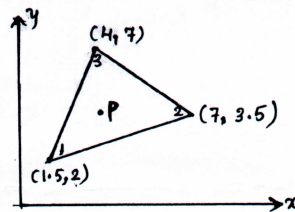

Fig Q5(b)
- b. Determine the shape functions (N_1, N_2, N_3) for a triangular element shown in Fig Q5(b). The X co-ordinate of interior point P is 3.85 and Y co-ordinate of interior point P is 4.8.